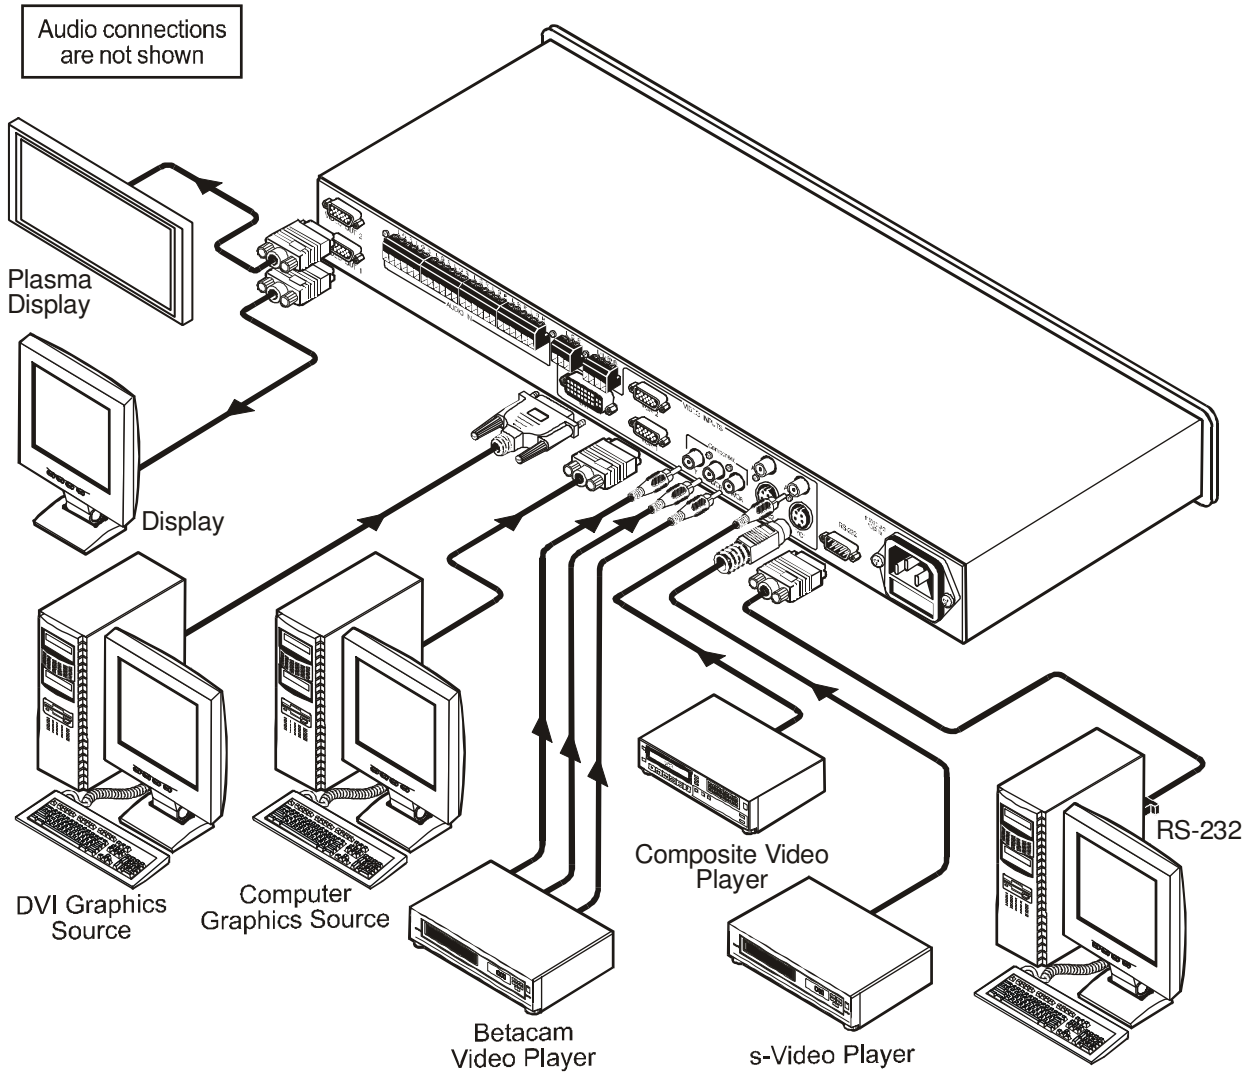

Figure 7: Connecting the VP-724xl Rear Panel
To connect the **VP-724xl** as illustrated in the example¹ in Figure 7, do the following²:
2. Connect the stereo audio sources⁸ (not illustrated in Figure 7):
4 Although in the example illustrated in Figure 7 only one source is connected, you may connect both sources simultaneously
6 Alternatively, you can connect an RGB signal (not shown in Figure 7), as follows: Red to the Y connector, Green to the Pb/Cb connector, and Blue to the Pr/Cr connector
4. Connect the LINE AUDIO OUT terminal block connector to one of the audio acceptors, for example, speakers (not illustrated in Figure 7)
6. The power cord¹ (the power connector is not illustrated in Figure 7).